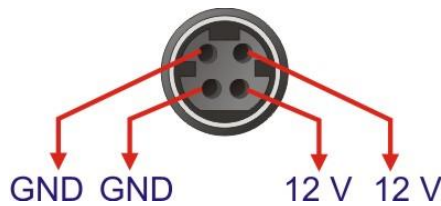

Figure 3-29: Power Connector (4-pin DIN)
- CN Location:** See Figure 3-29